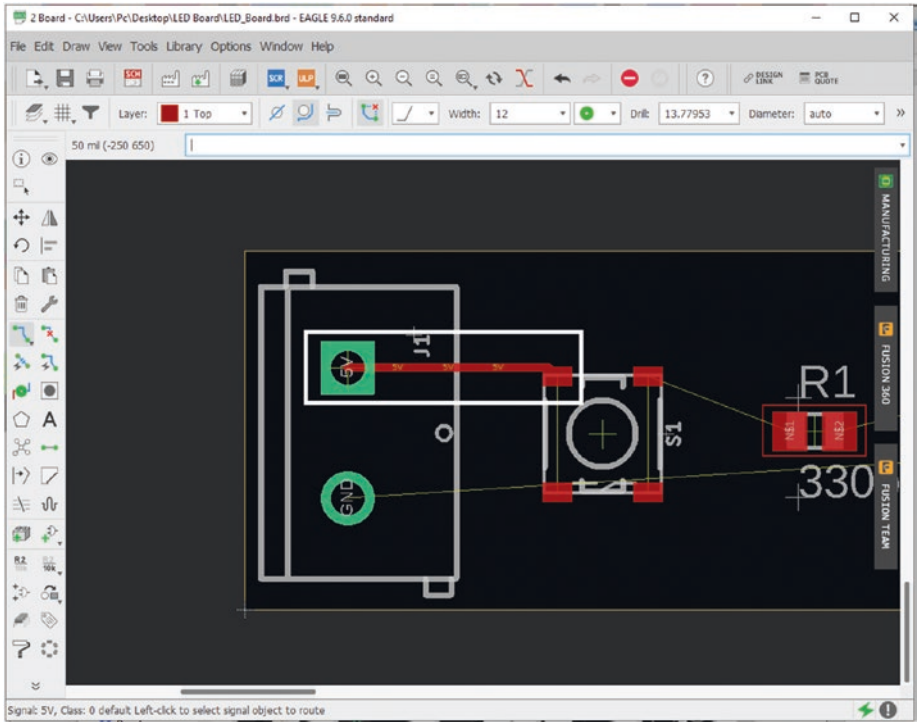

Figure 5-71. Connect terminal block to 5V
20. Left-click the 5V contact on the terminal block (J1), then move your mouse over to the top-left contact of the push button (S1), and left-click that contact. See Figure 5-71.